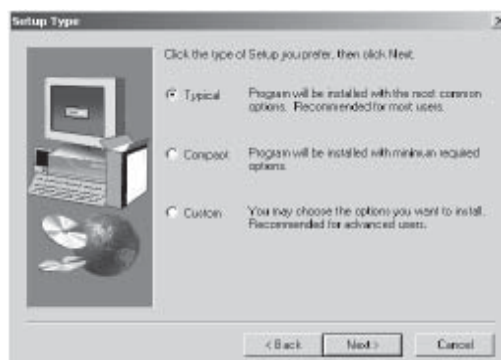

Fig. 2-5 Installation Interface 5
Step4. Setup Installation/Deletion Folders. (This item will appear in the function menu of **°Control Panel°** **°Add/Delete°**. We select **°SCADA for FAB** for example). Completing the setup, click **°Next±** to continue in Fig. 2-5.